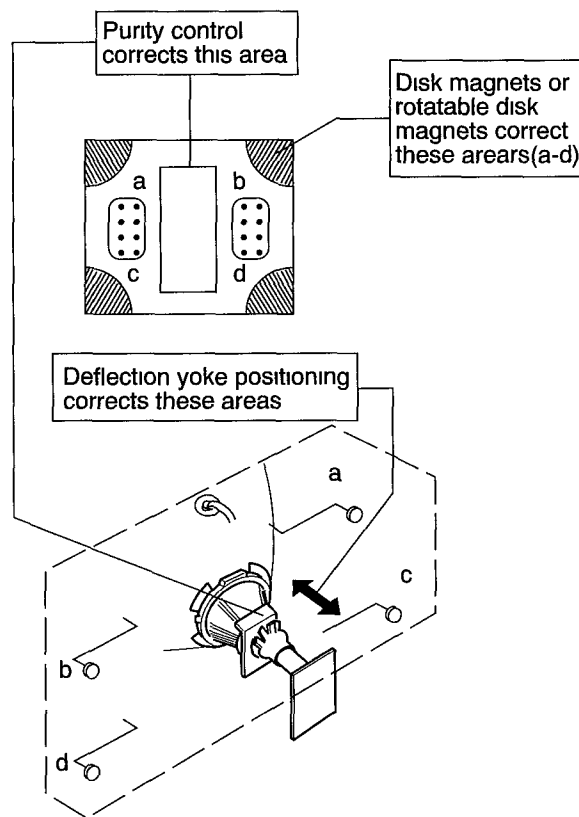

Fig 4
- 8 When landing at the corner is not right, adjust by using the disk magnets (Fig 4)